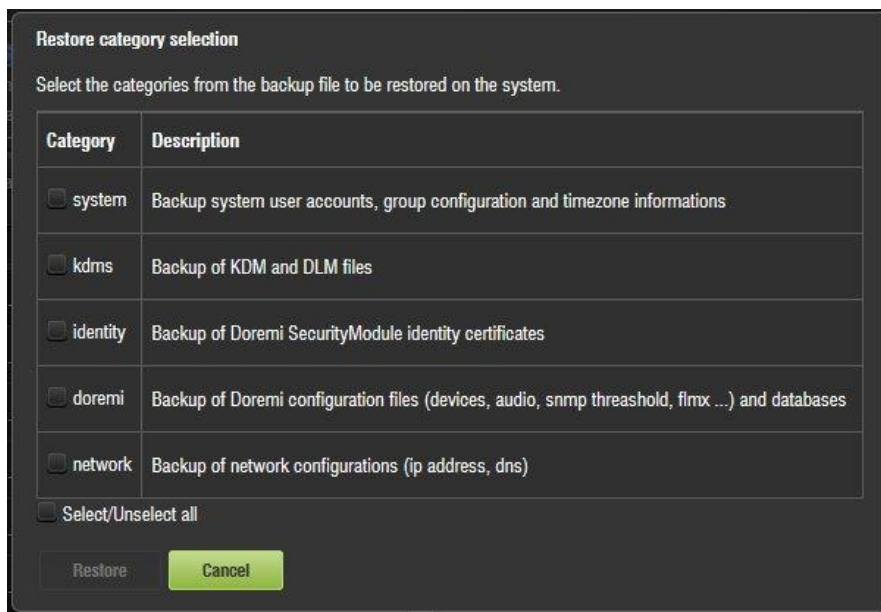

Figure 208: Restore Category Selection Window
- The Restore Category Selection window will appear (Figure 208). Here, you will be able to choose which types of files to restore, or you can select all files to restore: